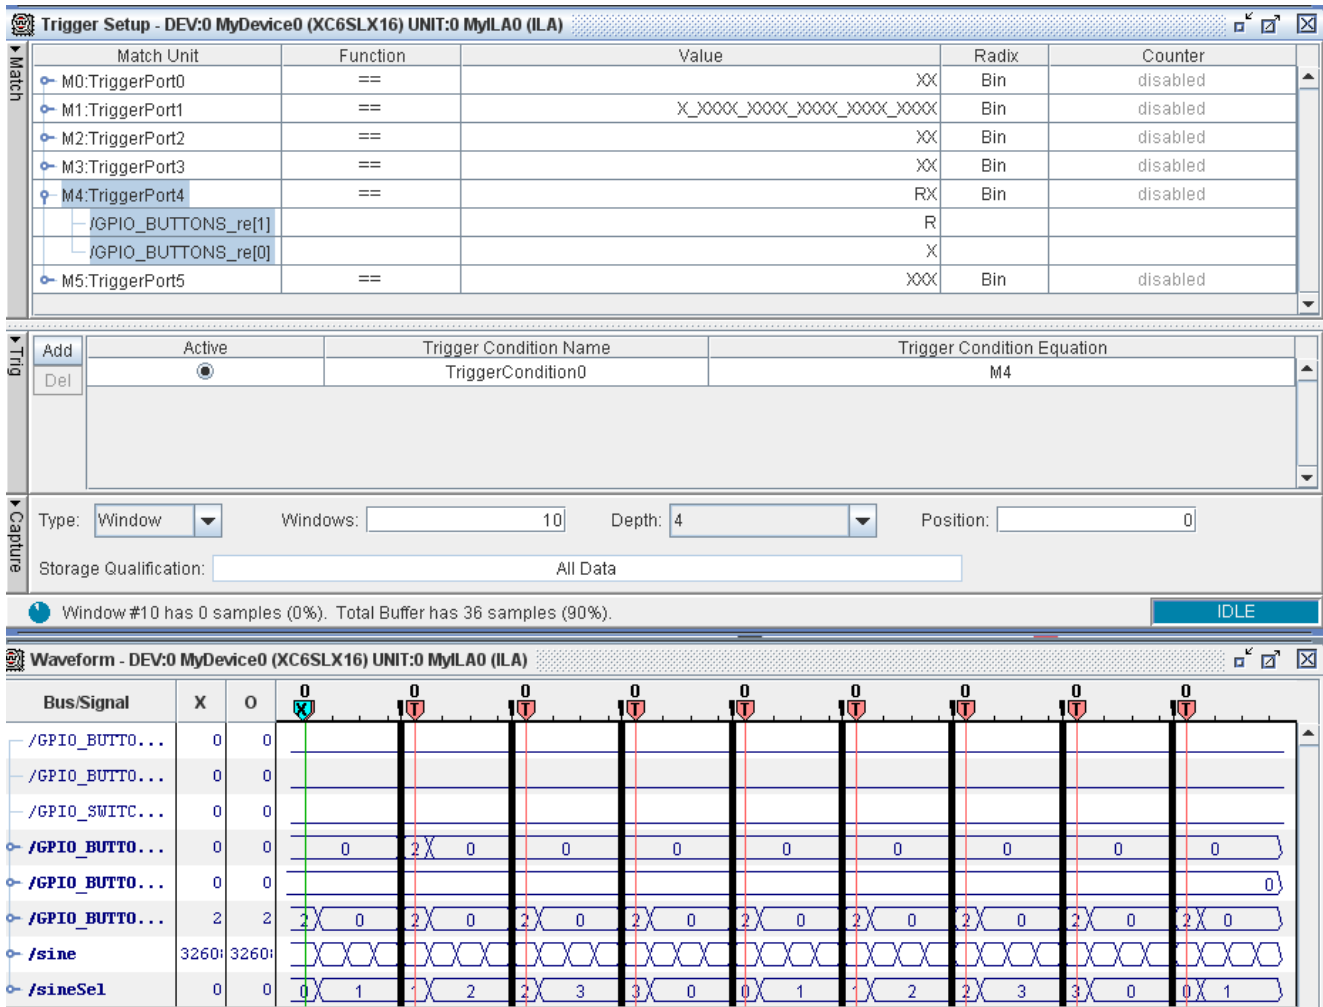

Figure 7: Sample View of Display Setting and State Machine Glitch
3. In the **Trigger Conditions** area of the **Trigger Setup** window, click inside the **Trigger Condition Equation** field. In the resulting dialog box, ensure that the appropriate match unit is enabled. You can tell that the correct match unit is enabled if it is highlighted in blue, as shown in Figure 7, page 17.
4. In the **Capture** area of the **Trigger Setup** window, shown in Figure 7, change the settings as follows:
3. Push the *Sine Wave Sequencer* button on the SP601 board. Each button push generates one or more “windows” that show segments of time on the time axis of the waveform. Observe the number of windows captured in the status bar that appears just below the capture settings. (The status bar is shown in Figure 7, page 17.) If more than one window is captured with a single push of the button, you have determined that there is an issue on the GPIO_BUTTON[1] input. If only one window is captured, try again. You might have to push the button several times to reproduce this intermittent glitch. As soon as a single button push generates multiple windows, go on to the next step.